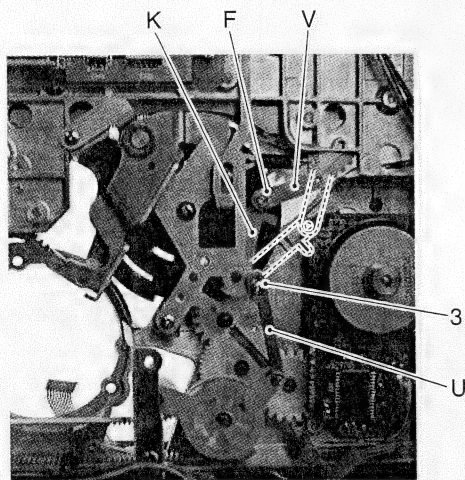

Fig. 2-7-65
8. Secure the adjust lever assembly U using the screw 3 (see Fig. 2-7-65).
- The pinch cam arm assembly must be attached as shown in the diagram. If it is attached as shown by the dotted lines in Fig. 2-7-65, it will be impossible to crimp the pinch roller.